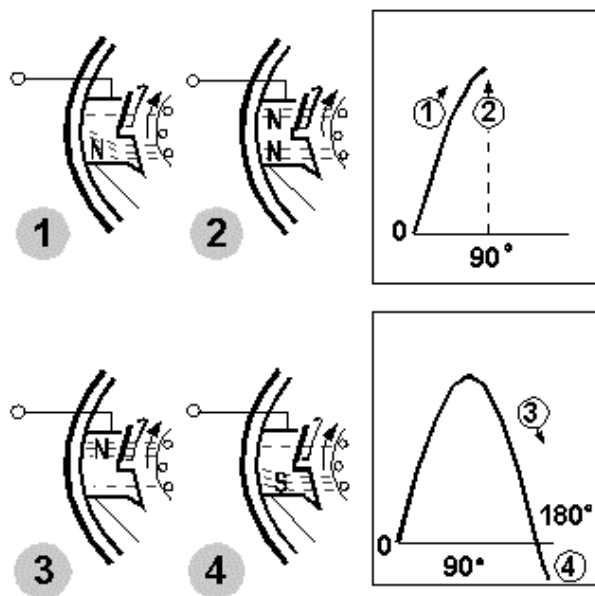

Figure 4-13.—Shaded poles as used in shaded-pole ac induction motors.
The shaded-pole induction motor is another single-phase motor. It uses a unique method to start the rotor turning. The effect of a moving magnetic field is produced by constructing the stator in a special way. This motor has projecting pole pieces just like some dc motors. In addition, portions of the pole piece surfaces are surrounded by a copper strap called a shading coil. A pole piece with the strap in place is shown in figure 4-13. The strap causes the field to move back and forth across the face of the pole piece. Note the numbered sequence and points on the magnetization curve in the figure. As the alternating stator field starts increasing from zero (1), the lines of force expand across the face of the pole piece and cut through the strap. A voltage is induced in the strap. The current that results generates a field that opposes the cutting action (and decreases the strength) of the main field. This produces the following actions: As the field increases from zero to a maximum at 90° , a large portion of the magnetic lines of force are concentrated in the unshaded portion of the pole (1). At 90° the field reaches its maximum value. Since the lines of force have stopped expanding, no emf is induced in the strap, and no opposing magnetic field is generated. As a result, the main field is uniformly distributed across the pole (2). From 90° to 180° , the main field starts decreasing or collapsing inward. The field generated in the strap opposes the collapsing field. The effect is to concentrate the lines of force in the shaded portion of the pole face (3). You can see that from 0° to 180° , the main field has shifted across the pole face from the unshaded to the shaded portion. From 180° to 360° , the main field goes through the same change as it did from 0° to 180° ; however, it is now in the opposite direction (4). The direction of the field does not affect the way the shaded pole works. The motion of the field is the same during the second half-cycle as it was during the first half of the cycle.